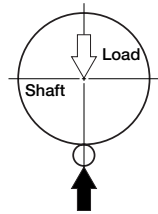
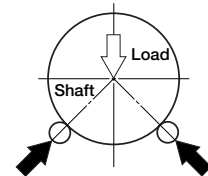

Fig. 1 Load direction A
Fig. 2 Load direction B
**IKO** Compact Linear Bushing should be press-fitted into the housing gently, using an appropriate tool as shown in Fig.1 with its marked end face up. As the external cylinder is thin, it must never be stuck directly with a hammer. Since the external cylinder of **IKO** Compact Linear Bushing is firmly press-fitted into the housing bore, it is not necessary to fix it axially.
Load ratings of Miniature Linear Bushing are affected by the position of the ball circuits. In the table of dimensions, two types of load ratings are shown corresponding to the load directions and steel ball circuit positions as shown in Fig. 1 and Fig. 2.
In Fig. 1 the load direction is in line with the steel ball circuit position and this direction is referred to as load direction A in the table of dimensions. In general, the load ratings for this direction are also used, when the load direction is indeterminate or the steel ball circuit position in relation to the load direction cannot be determined.
In Fig. 2, the load direction is pointed at the center of two ball circuits and this direction is referred to as load direction B in the table of dimensions. In general, a larger load can be received in this case compared with load direction A.